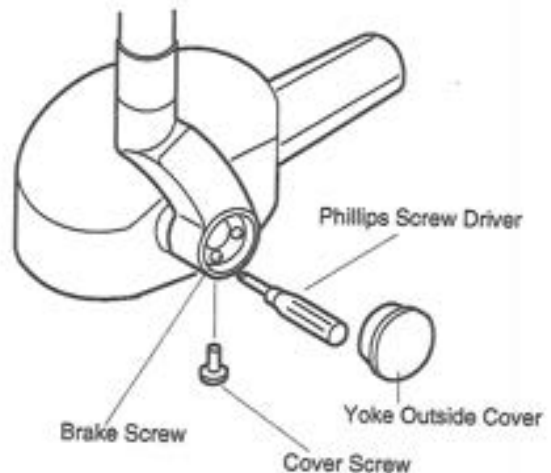

FIGURE 6
- a. Remove the yoke outside cover by loosening cover screw. (FIGURE 6)